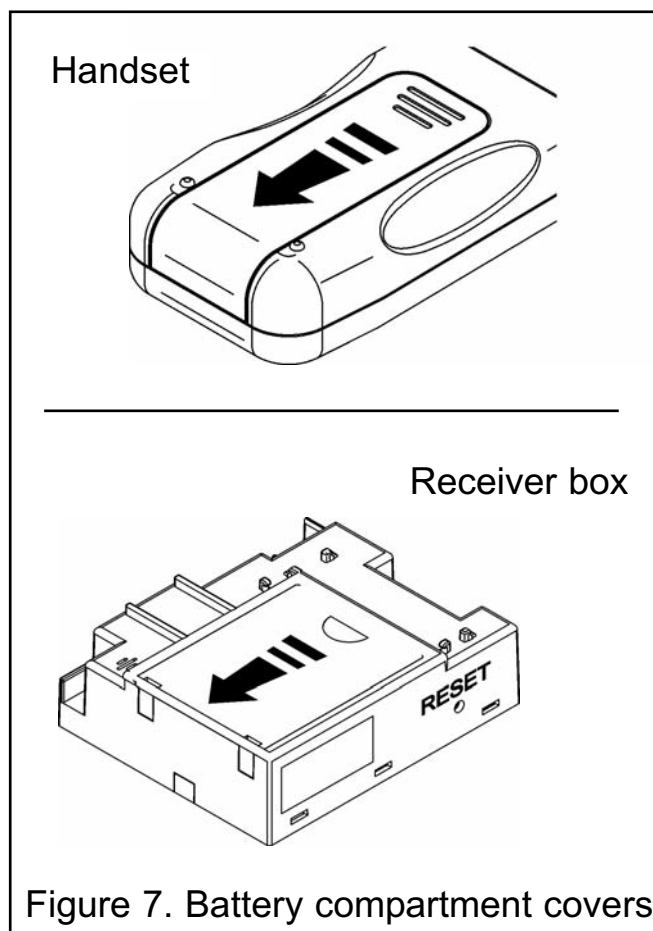

Figure 7. Battery compartment covers
3. Remove the receiver top cover (See figure 7)
2. Slide the battery holder out of its retention housing (See figure 7).